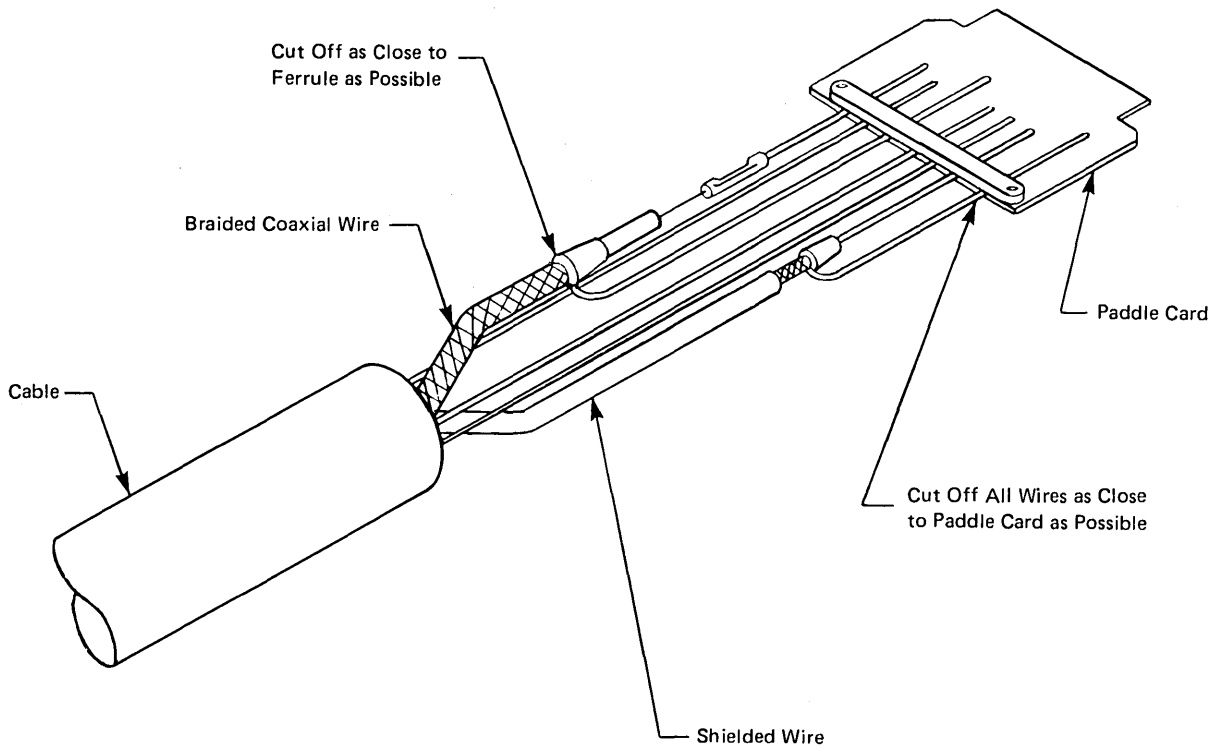

Figure 5-1. Procedure for Steps 1 and 2 in Conversion of 2260 Cable Assembly (IBM PN 5727687 or 5728292)
1. At the paddle end of the cable, cut the wires as close as possible to the card. (See Figure 5-1.)